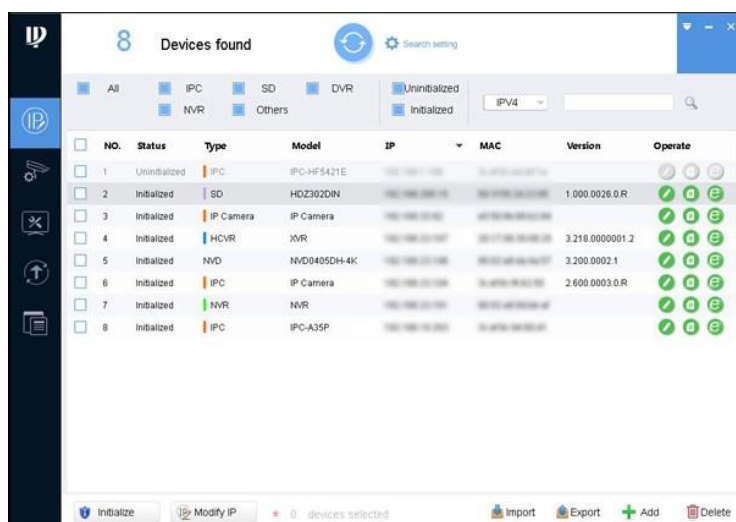

Figure 2-1 Modify IP interface
The Modify IP interface is displayed. See Figure 2-1.
- 10. Click Finish. The device status in the Modify IP interface (Figure 2-1) turns to Initialized.